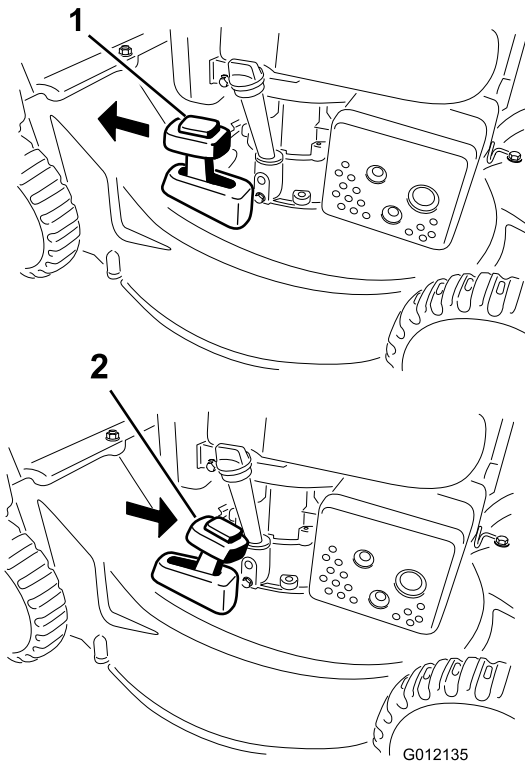

Figure 16
To recycle the clippings, move the bag-on-demand lever to the RECYCLING position (Figure 16).
2. Install the grass bag; refer to Installing the Grass Bag \(page 11\) and move the bag-on-demand lever to the BAGGING position as shown in Figure 16.
Note: If the grass bag is on the machine, remove it before rear-discharging the clippings; refer to Removing the Grass Bag \(page 12\). The bag-on-demand lever should be in the BAGGING position as shown in Figure 16.